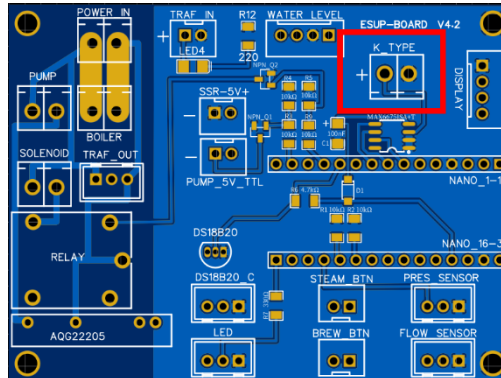

Fig.9.1
- Take the type-k temperature sensor from the package and make connection between the main board (fig. 9.1) and the temperature sensor hole left empty after the removal of the original sensor.